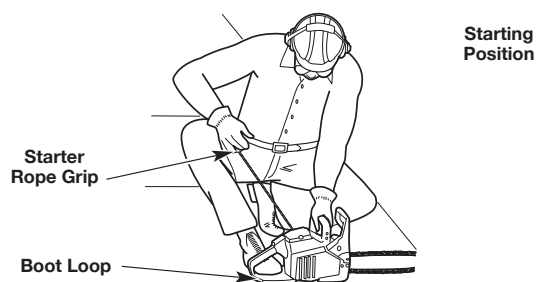

Fig. 5
Avoid accidentally starting the unit. To avoid serious injury, the operator and the unit must be in a stable position when pulling the starter rope (Fig. 5).
9. DO NOT touch the throttle control. Crouch in the starting position (Fig. 5). Hold the front handle with the left hand. Hold the starter rope grip with the right hand. Insert the right foot into the boot loop to help hold the unit firmly in place.
10. DO NOT touch the throttle control. Pull the starter rope with a controlled and steady motion up to 4 times or until engine starts (Fig. 5).